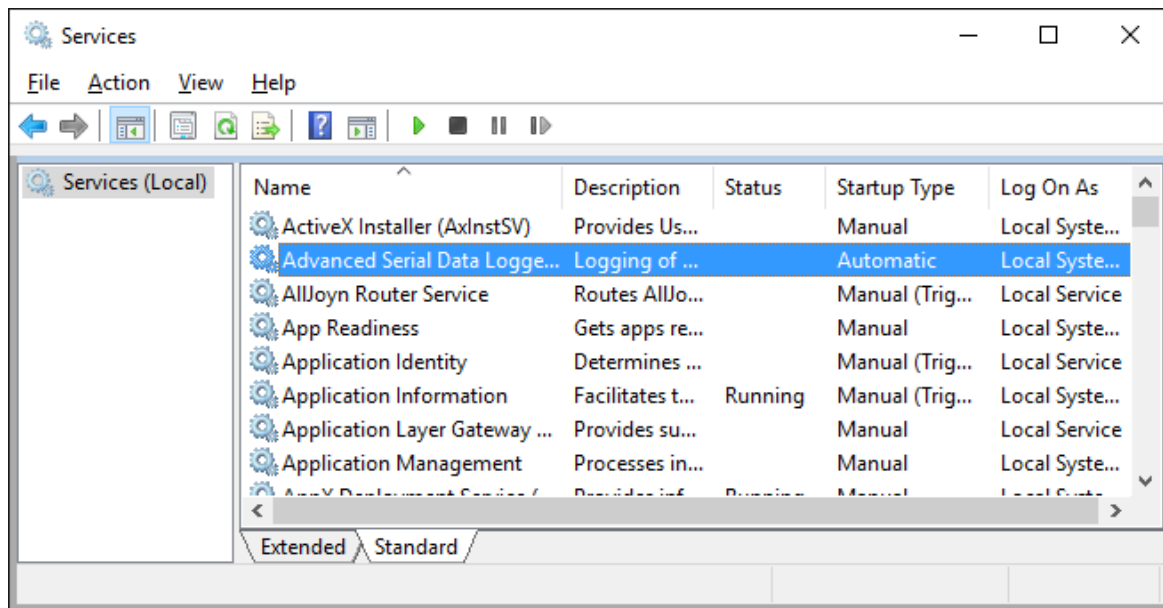

Fig. 57. Manual service run (in Windows 2000)
2. **Manual** - you can start the service application from the "Services" control panel (fig. 57).
After you configured Accurate Printer Monitor to work in the service mode, you need to restart a computer or start the service manually from the "Services" control panel (fig. 57).